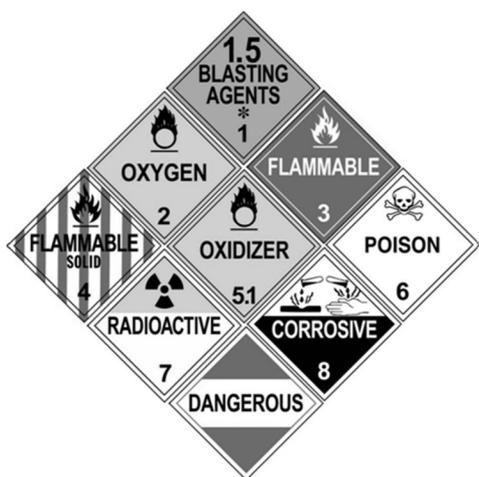

Figure 9.3
**Placards.** Placards are used to warn others of HazMat. Placards are signs put on the outside of a vehicle and on bulk packages, which identify the hazard class of the cargo. A placarded vehicle must have at least 4 identical placards. They are put on the front, rear, and both sides of the vehicle. See Figure 9.3. Placards must be readable from all 4 directions. They are at least 9.84 inches (250mm) square, square-on-point, in a diamond shape. Cargo tanks and other bulk packaging display the ID number of their contents on placards or orange panels or white square-on-point displays that are the same size as placards.